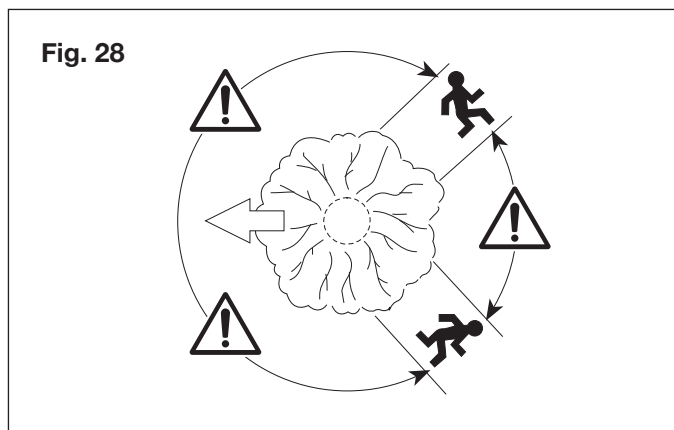

Fig. 28
- An escape path should be planned and cleared as necessary before cuts are started. The escape path should extend back and diagonally to the rear of the expected line of fall as illustrated (Fig. 28).